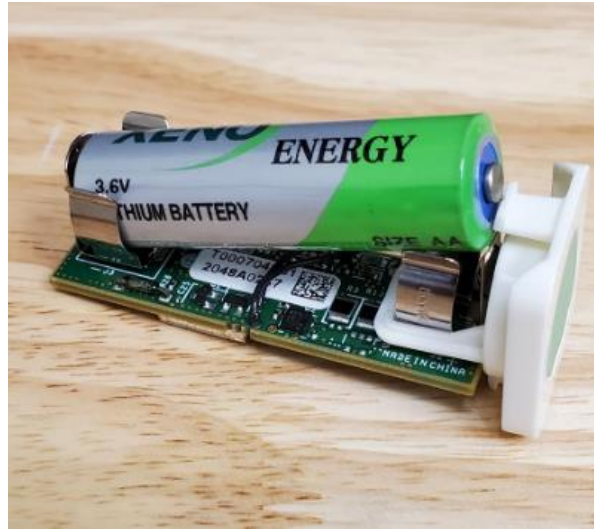

Figure 2-6: Battery Polarity Orientation
3. Remove the battery and replace with a new one. Ensure that the polarity of the battery is in the proper orientation as shown in Figure 2-6.